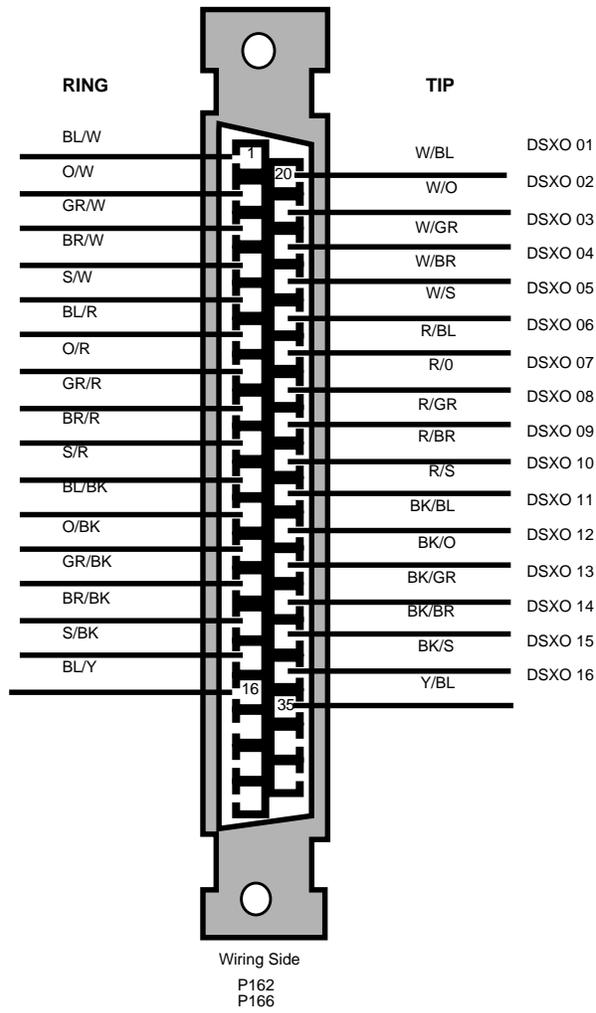

Figure 3-28. DS1 OUT (1 - 16) Connections
- Step 2:* Terminate the transmit pairs (DS1 OUT) at the DSX and label the leads in accordance with the Figures 3-28 and 3-29.